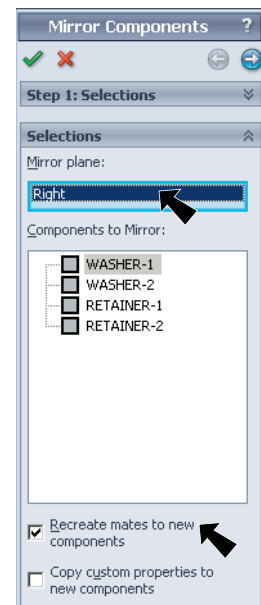

Fig. 37
In the Design Tree, click to select both washers and both retainers, Fig. 37
Step 4. Click OK  in the Property Manager, Fig. 37.